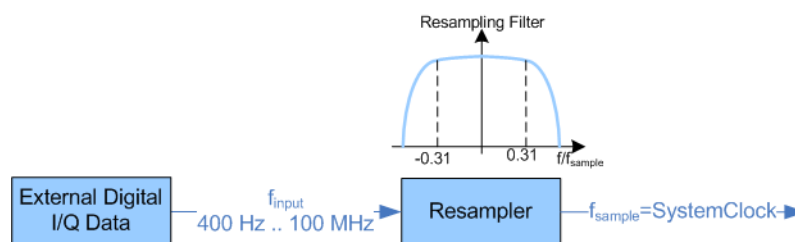

Fig. 5-25: Resampling principle of external digital baseband signals
- External input signals with sample rates different than the system clock are resampled, as illustrated on figure 5-25.
- A baseband signal with a sample rate that is smaller than the used system clock is interpolated (see figure 5-25). With R&S SMBV-B10, the resulting modulation bandwidth is calculated as $Sample\ Rate * 0.62$, i.e. with a sample rate of exactly 100 MHz, the modulation bandwidth is 62 MHz.